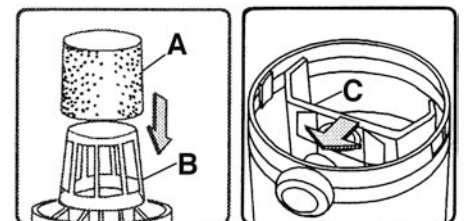

FIGURE 6
**When vacuuming dry materials**, to ensure proper filtration, the foam filter should be used when vacuuming coarse materials with low dust for maximum air flow. The re-usable filter can and should be used together with the foam filter or only install the cartridge filter instead of both other filters when vacuuming coarse and dusty materials. Place the cover/motor assembly upside down, slide the foam filter (A) Fig.6 or the cartridge filter over the cage (B). If you installed the foam filter, then slide the re-usable filter over the foam filter. Now the dust bag (C) must be installed to the inner portion of the inlet. Fit the dust bag flange over the inner inlet, taking care not to damage the dust bag.
**When vacuuming wet materials**, to ensure proper filtration, the foam filter must be installed. Place the cover/motor assembly upside down, slide the foam filter (A) Fig.6 over the cage (B).